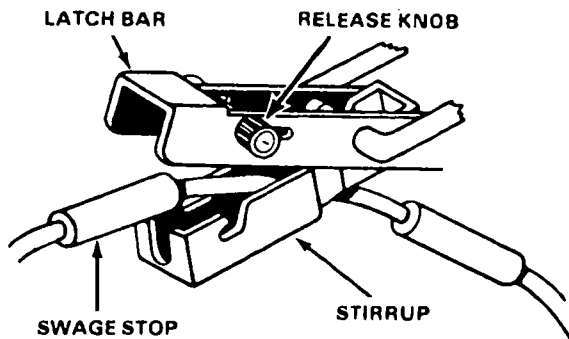

Figure 8-9. Tensioner
Step 2 - Route the plastic covered wire rope under the pallet wing formed by the upper boards on the sides of the pallet. Pull the ends of the cable containing the swage stops through the tensioner (Figure 8-9).